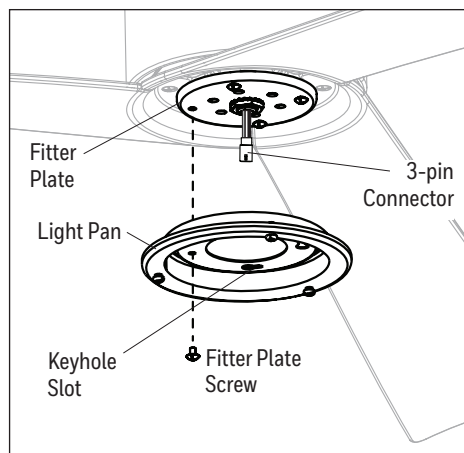

Figure 5.4
- Remove one of the four fitter plate screws from the fitter plate and loosen the other three but do not remove. Feed the 3-pin connect through the center hole in the light pan. Align the keyhole slots in the light pan with the loosened screws in the fitter plate. Turn light pan clockwise and replace the previously removed fitter plate screw. Tighten all screws (Figure 5.4).